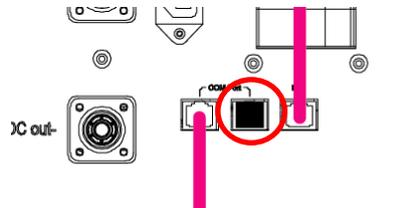

Figure 4.16 Terminal resistance in one of the HV900112
g. The last COM port of HV900112, which has no cable to connect, should be inserted with the terminal resistance from HV900112 parts list. You can see the detailed information Figure 4.16.